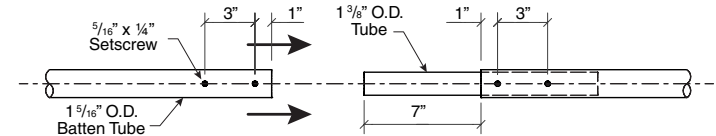

Figure 3
- ① Lay the curtain out with the tops of the curtains close to the dangling cables.
- ② Slide 1 5/8" top and bottom batten tubes into pocket one section at a time, assembling as you go. Use 1 3/8" OD x 14" tube to connect section of batten tube. Splice should be installed so equal portions are inside tube that is being connected (see Fig. 3). Rotate batten to align the pre-drilled and tapped holes in batten. Secure with 5/16" x 1/4" set screws.